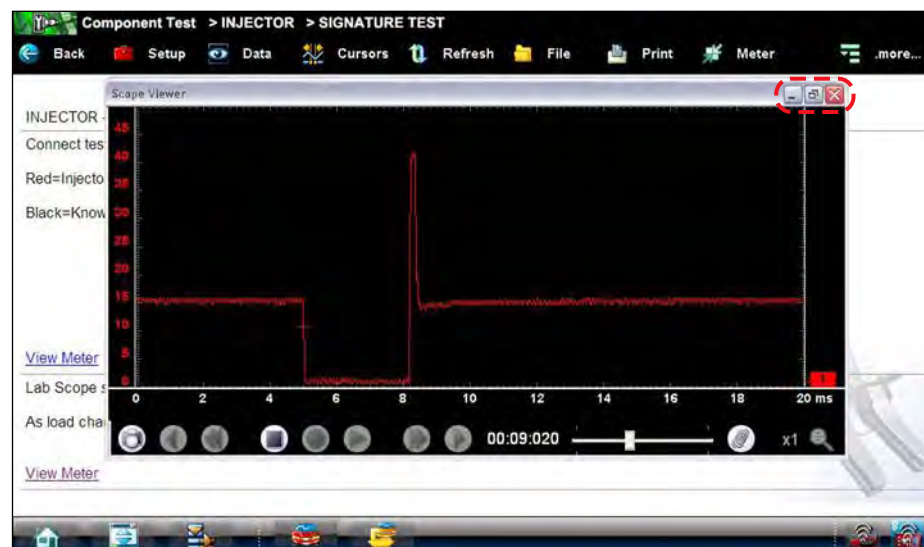

Figure 7-10 Sample meter view in a separate window
2. Tap the **Meter** button a second time and the meter open as a separate window (Figure 7-10). This window can remain open if you switch to the Scanner module and can be accessed from the Windows toolbar at the bottom of the screen. You can also resize and reposition the meter window on the screen.